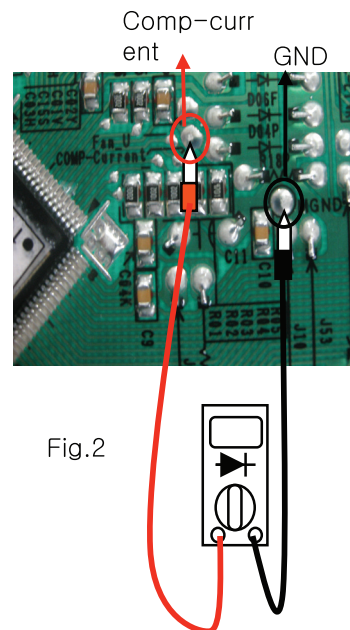

Fig.2
4. Measure voltages of U~Nu / V~Nu / W~Nu as shown in figure 2 below.
[Figure 2]